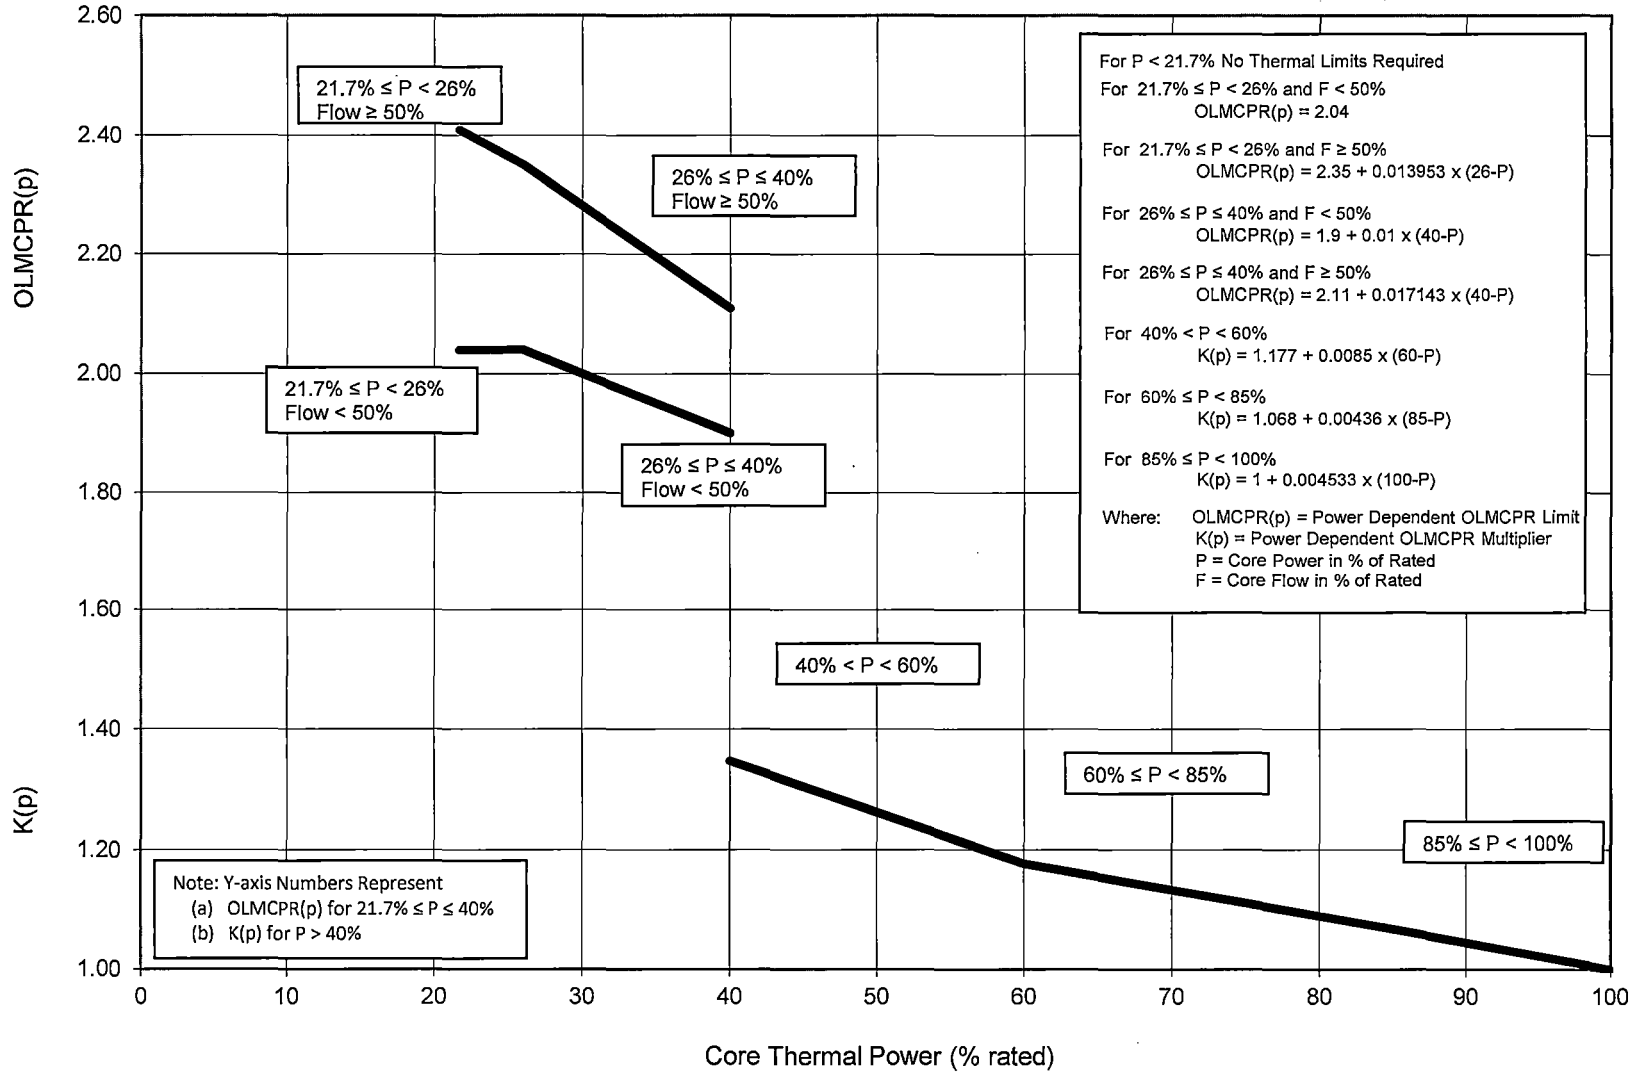
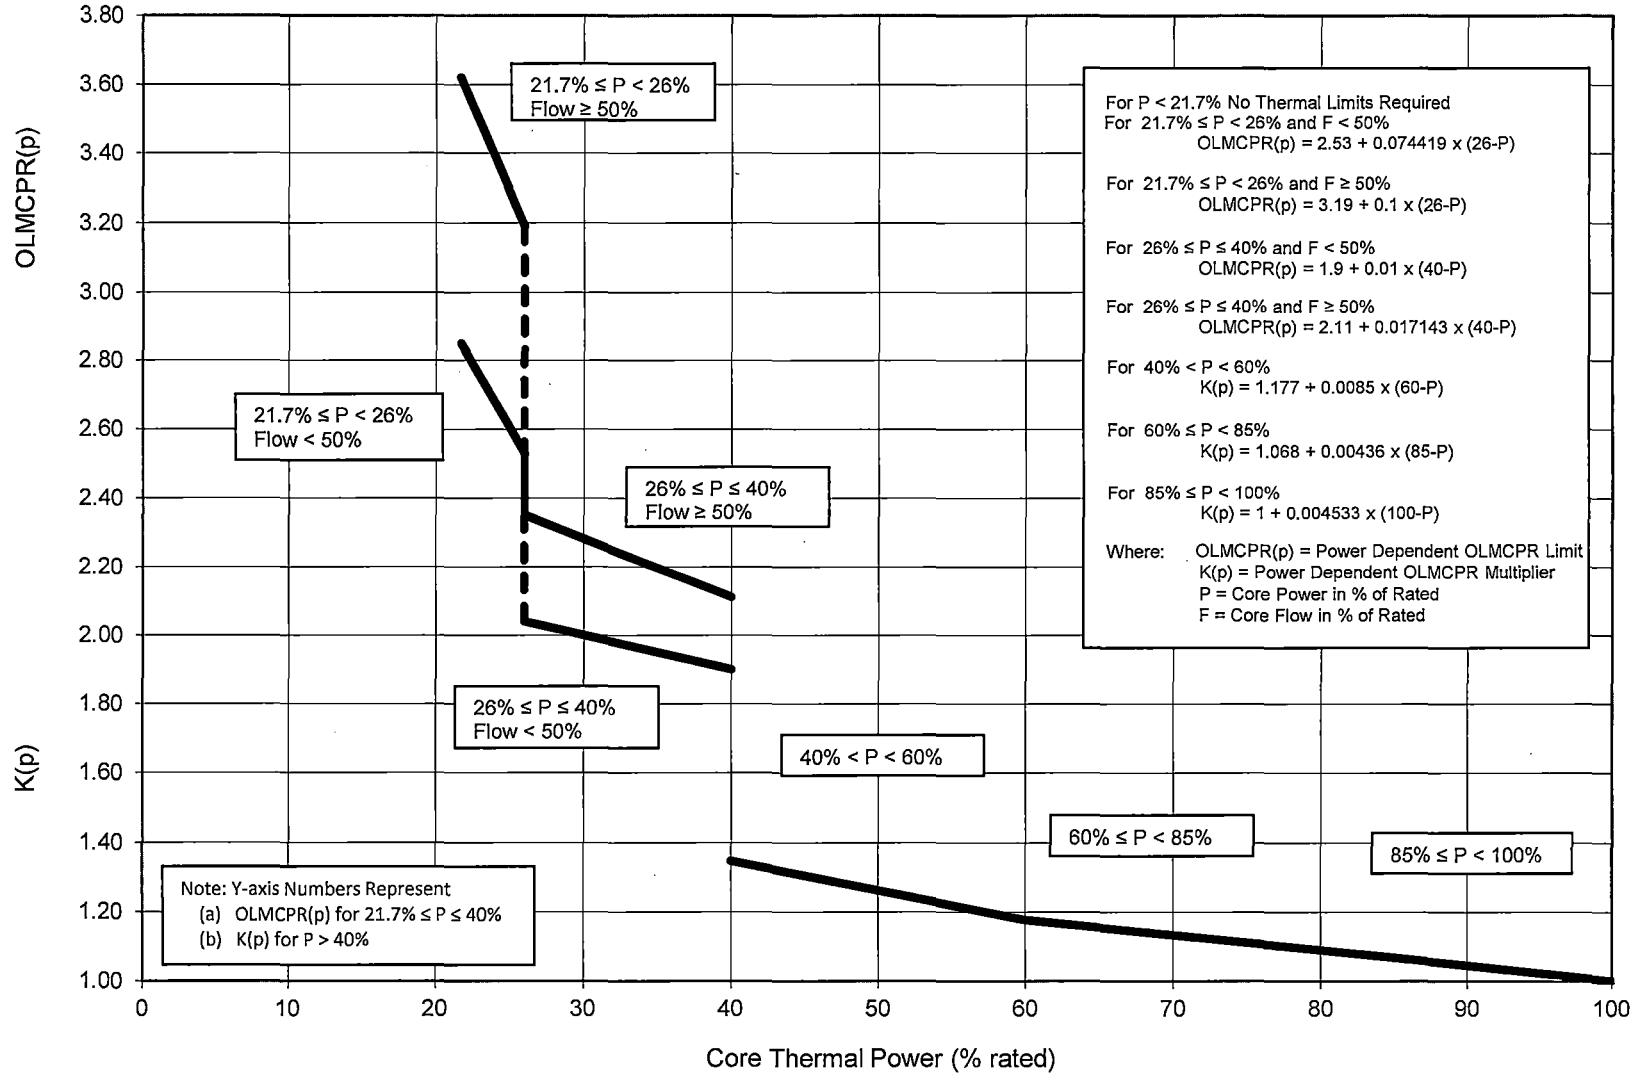
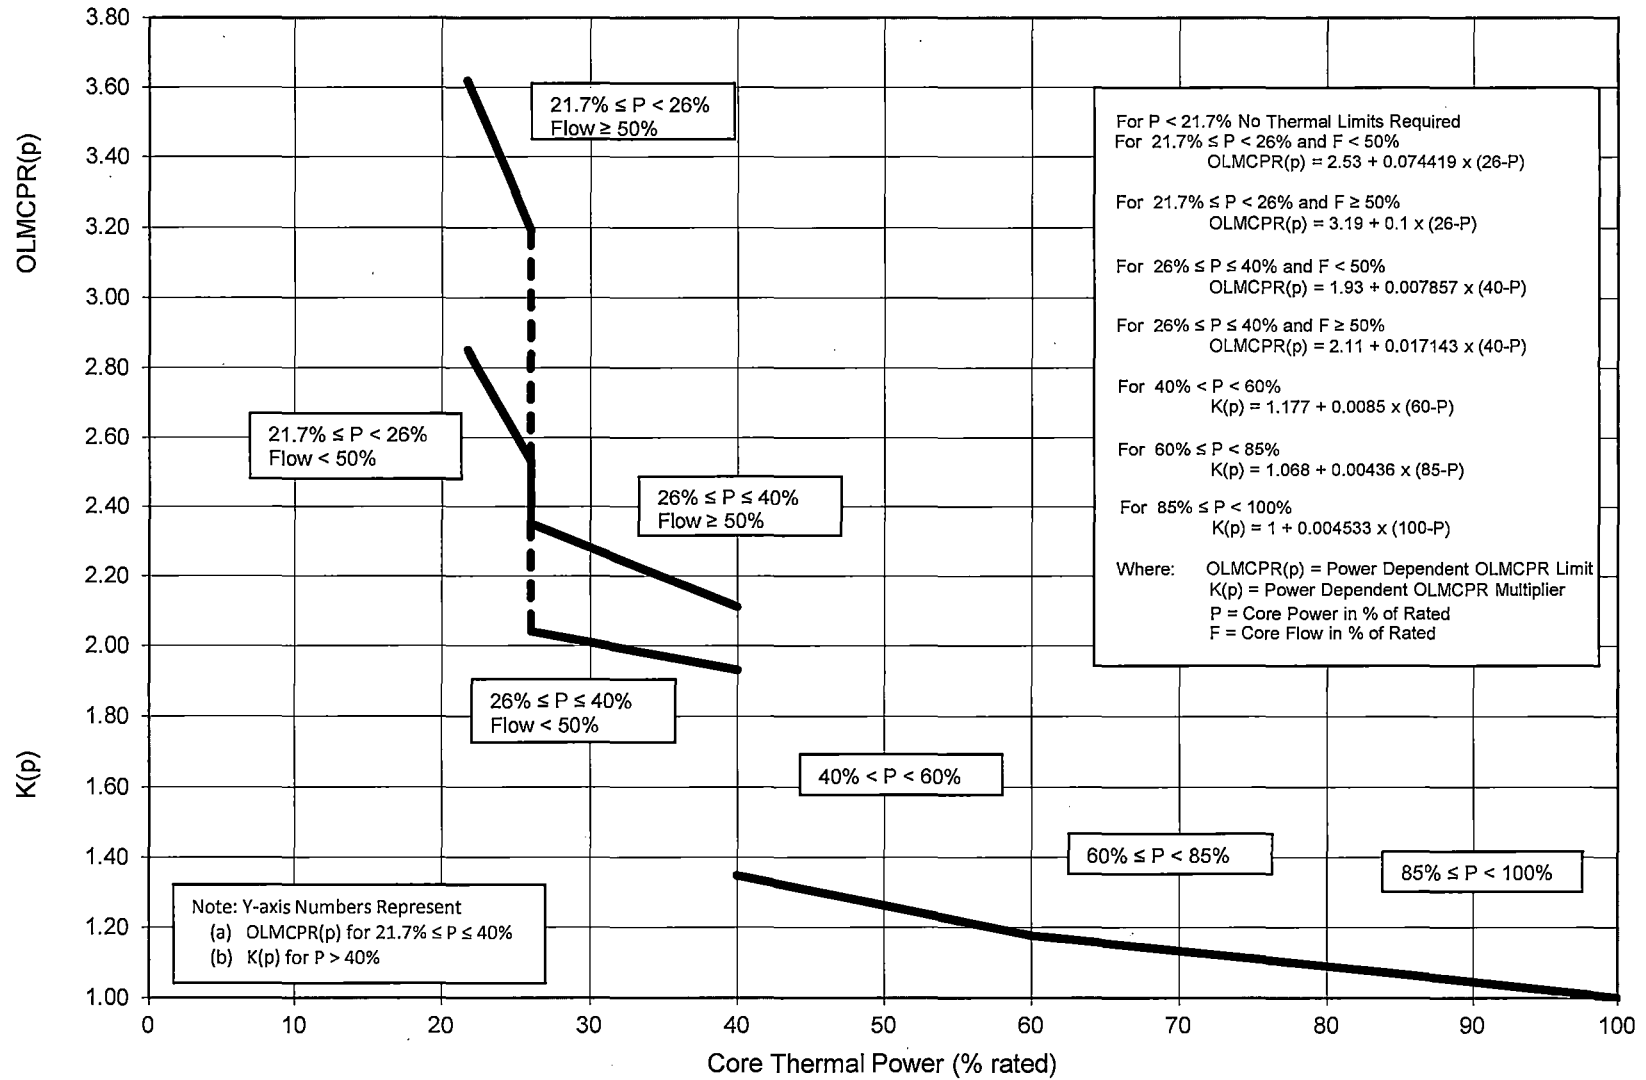
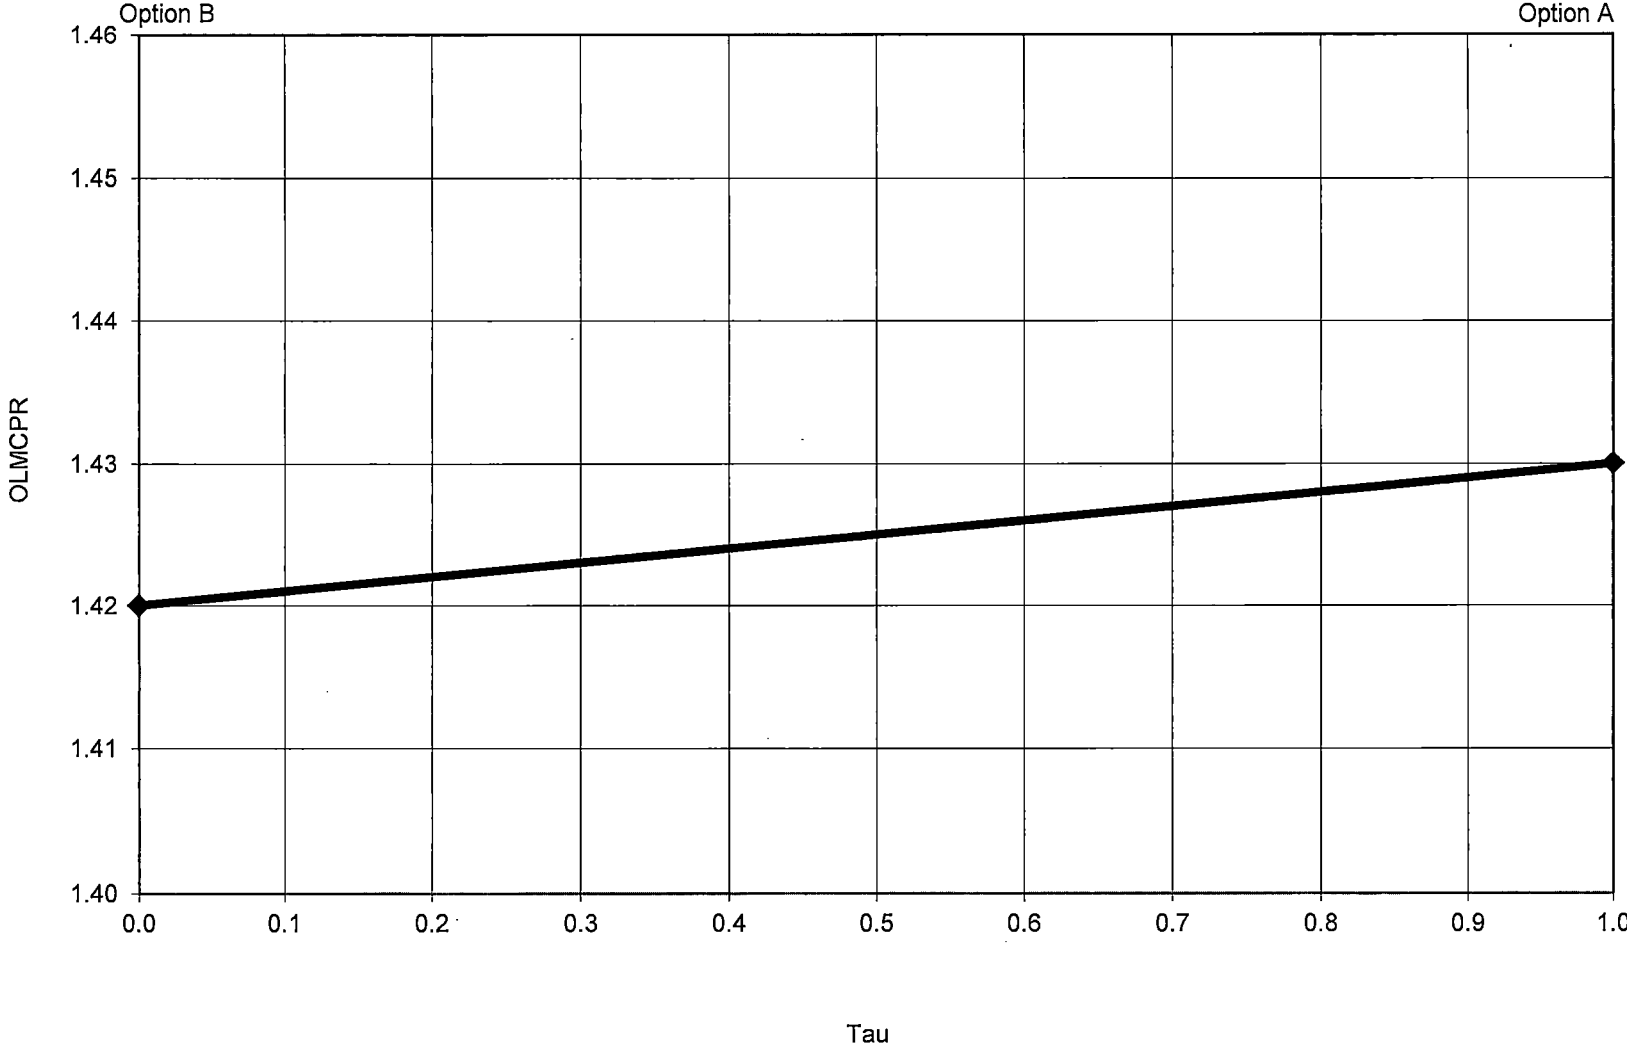

Figure 5a
Figure 5b
Figure 5c
Figure 7
- a. The MCPR shall be equal to or greater than the Operating Limit MCPR (OLMCPR), which is a function of Core Thermal Power, Core Flow, and Scram Time (Tau). For Core Thermal Power greater than or equal to 21.7% of rated and less than or equal to 40% of rated ($21.7\% \leq P \leq 40\%$), the OLMCPR is given by Figure 5a [also use Figure 5a for Recirculation Pump Trip Out-of-Service (RPTOOS); Figure 5b for Turbine Bypass Valves Out-of-Service (TBVOOS); Figure 5c for RPTOOS and TBVOOS]. For Core Thermal Power greater than 40% of rated ($P > 40\%$), the OLMCPR is the greater of either:
- ii) The appropriate Rated Power OLMCPR from Figure 7 or 8 [Figure 9 for Recirculation Pump Trip Out-of-Service (RPTOOS); Figure 10 for Turbine Bypass Valves Out-of-Service (TBVOOS); Figure 11 for RPTOOS and TBVOOS], multiplied by the applicable power-dependent OLMCPR multiplier determined from Figure 5a [also use Figure 5a for Recirculation Pump Trip Out-of-Service (RPTOOS); Figure 5b for Turbine Bypass Valves Out-of-Service (TBVOOS); Figure 5c for RPTOOS and TBVOOS].
- ii) a rated OLMCPR of 1.43, multiplied by the applicable power-dependent OLMCPR multiplier determined from Figure 5a [also use Figure 5a for Recirculation Pump Trip Out-of-Service (RPTOOS); Figure 5b for Turbine Bypass Valves Out-of-Service (TBVOOS); Figure 5c for RPTOOS and TBVOOS].